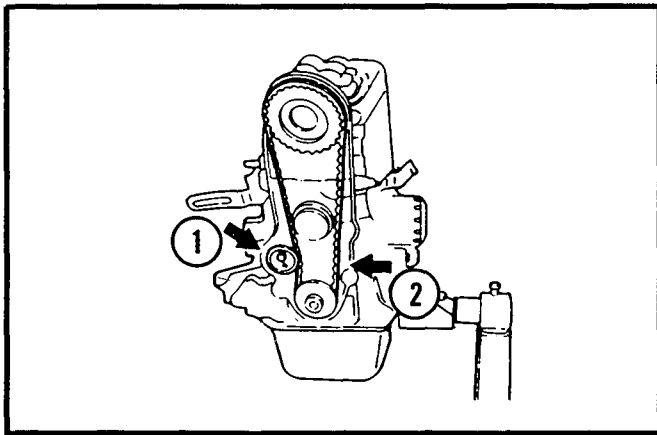

Figure 3.
6. Remove the timing belt idler pulley and timing belt. See Figure 3.